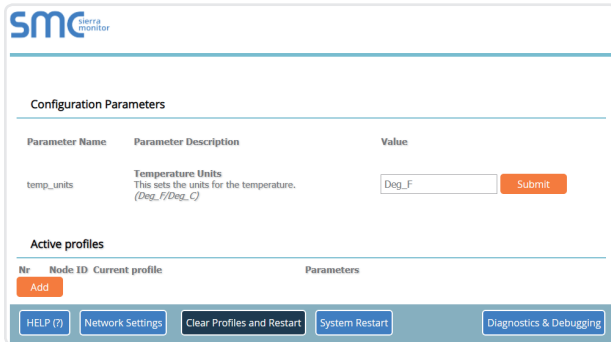

Figure 19: Web Configurator Showing no Active Profiles
2. The Active Profiles section lists the currently active device profiles, including previous Web Configurator additions. This list is empty for new installations, or after clearing all configurations. (Figure 19)